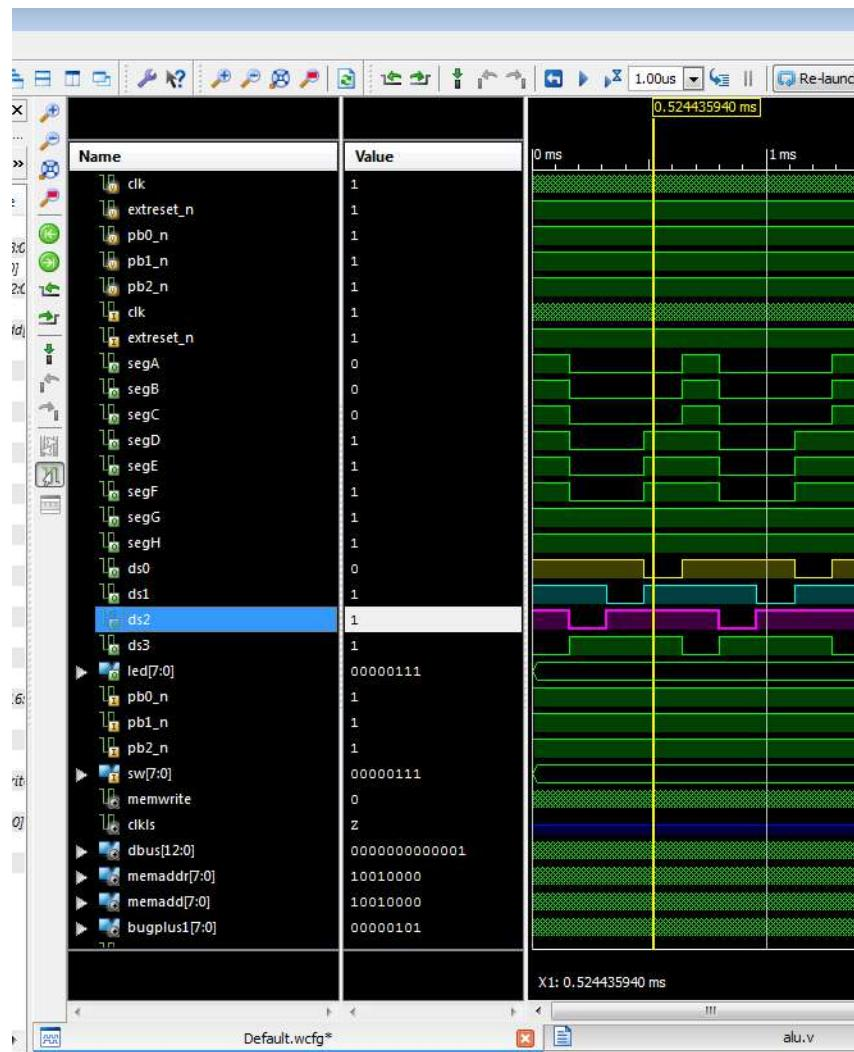

Figure 5-27 7-segment display
6. Click the *Default.wcfg* tab, zoom to full view, and you should see the 7-segment display output changing state and putting out the right codes for the 07 Hex read from the dip switches (Figure 5-27).